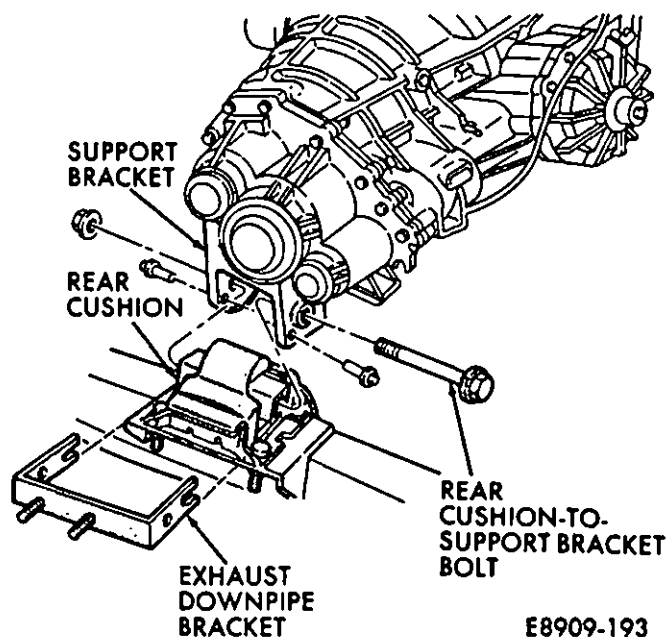
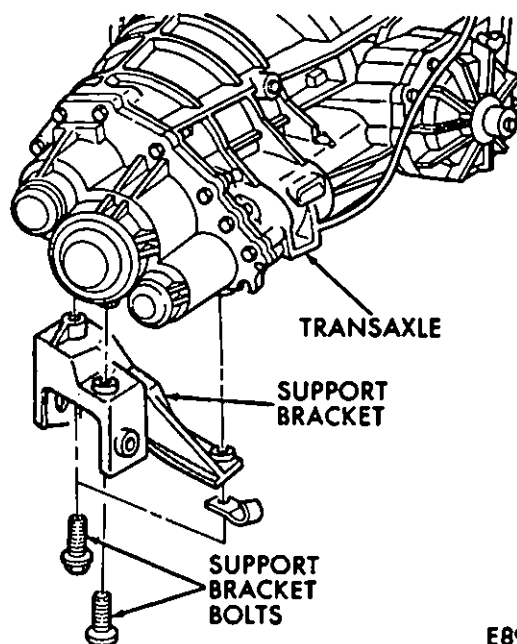

Fig. 5—Engine Rear Mount/Cushion
Fig. 6—Transaxle Support Bracket
(6) Remove the large bolt and nut that attaches the rear cushion to the support bracket (Fig. 5).
(7) Remove the bolts that attach the exhaust downpipe bracket to the rear cushion and the downpipe (Fig. 5).
(8) Remove the crossmember and the rear cushion.
(9) Remove the support bracket bolts and remove the bracket from the transaxle (Fig. 6).
(1) Install the support bracket on the transaxle (Fig. 6). Tighten the support bracket bolts to 40 N·m (30 ft-lbs) torque.
(2) Position the exhaust bracket on the rear cushion (Fig. 5).